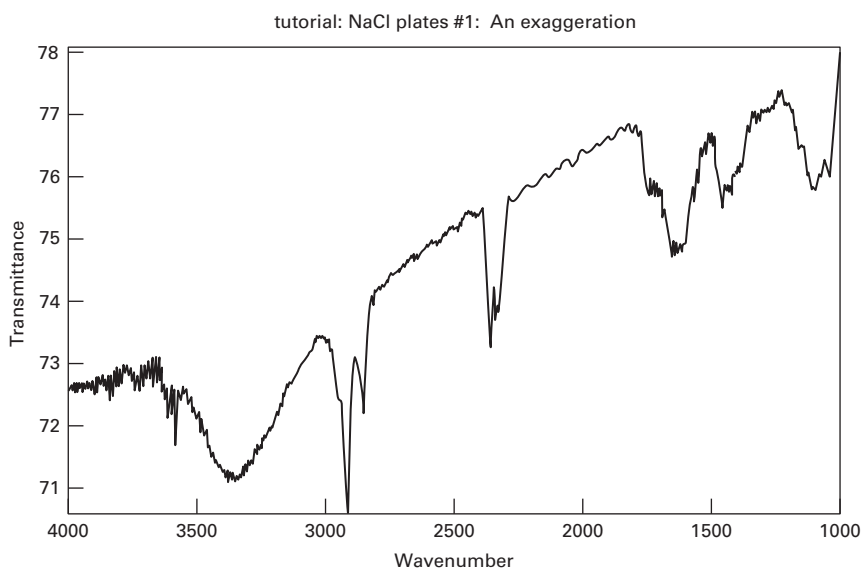

FIGURE 32.17 Salt plate spectrum transmittance trick.
4. ***The FTIR computer programs automatically scale the spectrum.*** So you don't have to set the zero and 100%. Unfortunately, the scaling is mindless, and you can be fooled if you're not careful. Figure 32.17 could possibly be an organic acid. See the broad hydrogen-bonded OH peak at about 3400 cm^{-1} ? (The consequences of not marking the exact frequency with the computer program